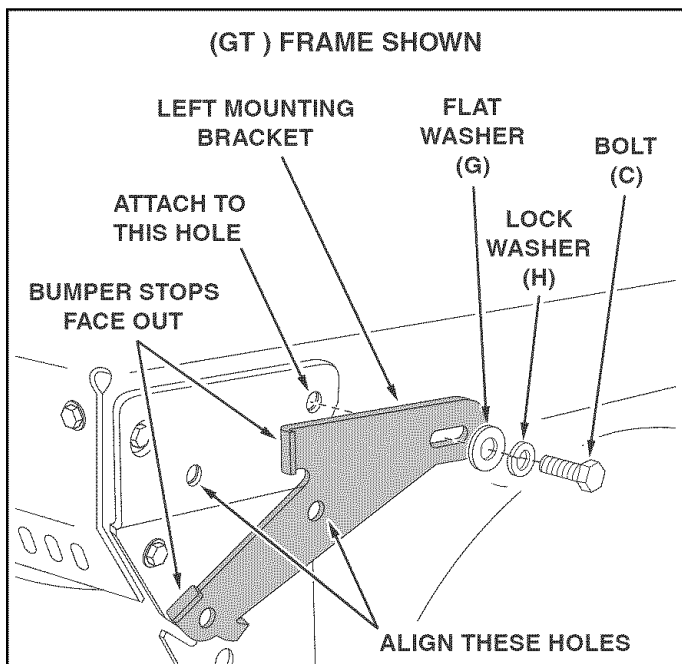

FIGURE 4
**STEP 4: (SEE FIGURE 4)**
- Attach left mounting bracket to hole shown in left side of tractor frame using bolt (C), lock washer (H) and flat washer (G). Align middle hole in bracket with empty hole in tractor frame and tighten bolt (C) to hold bracket in place. Repeat for right mounting bracket.